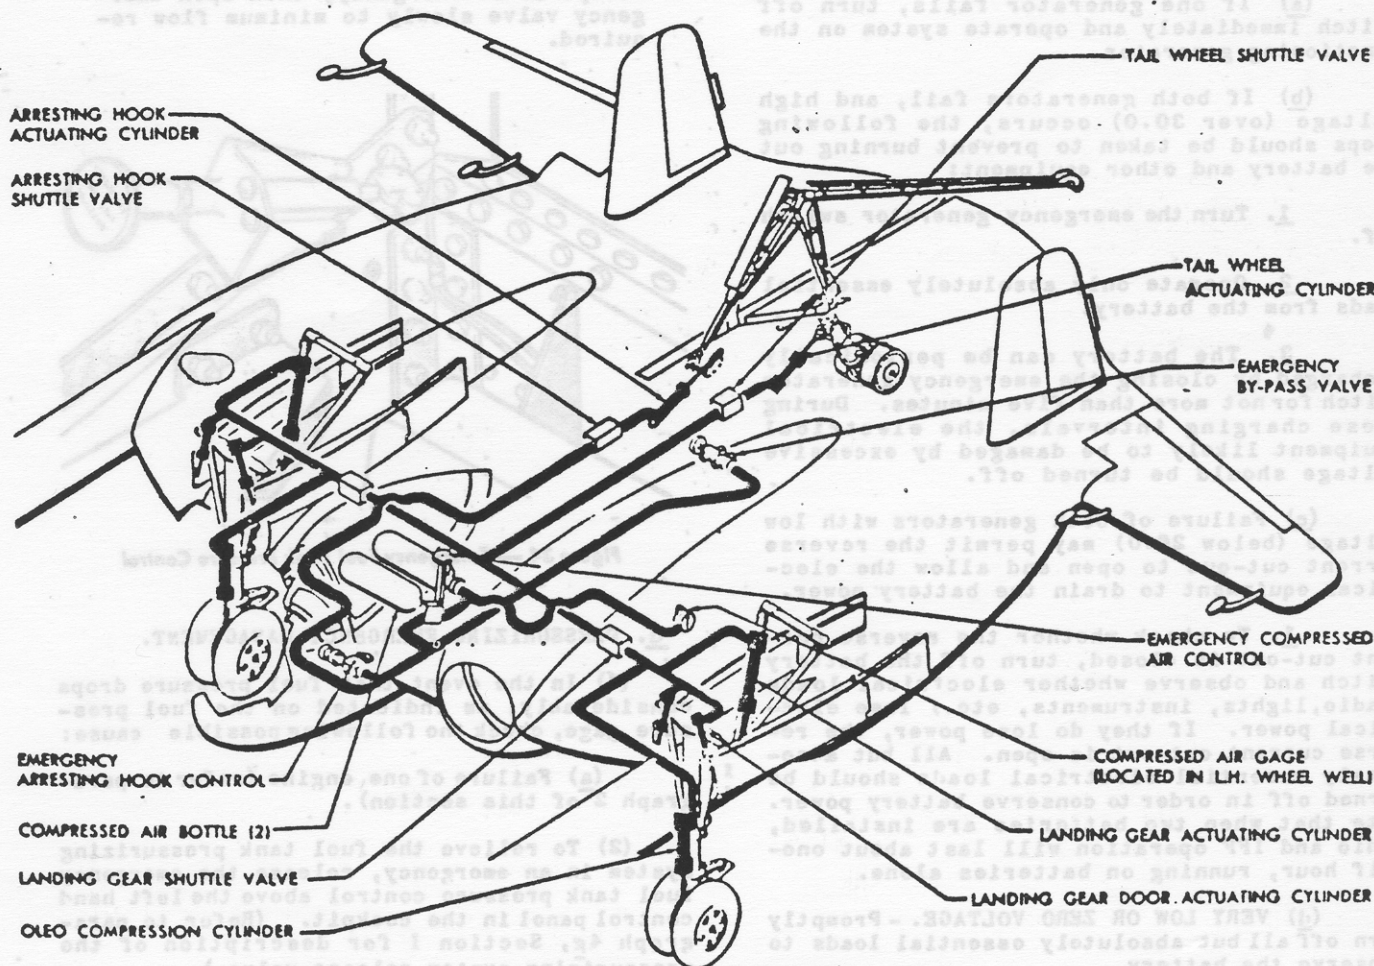

Figure 33 — Compressed Air Emergency Landing Gear and Arresting Hook Extension System Diagram
(1) Booster fuel pump - "EMERGENCY."
(2) Fuel selector - "MAIN TANK."
(3) Shift to low blower. Note that with the emergency (booster) fuel pump on "EMERGENCY," the fuel pressure will not come up all the way until the supercharger control is shifted to "LOW."
a. LANDING GEAR AND ARRESTING HOOK EMERGENCY EXTENSION. - In case of failure of the hydraulic system or power failure, the landing gear can be extended by means of the compressed air system. (See figure 33.)
(1) For emergency extension of the landing gear, proceed as follows: